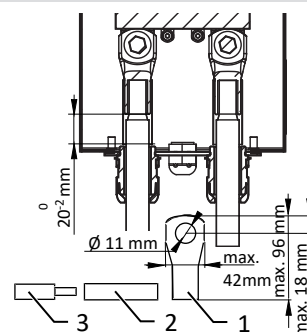

Fig. 28: Configuring the DC cable
Devices with DC switch have a limited connection space ([See section 7.3 ▶ Page 23]) The maximum cable lug length of 96 mm extends into the cable gland to ensure proper function and use [See figure 28 ▶ Page 28].
• **WARNING! Risk of short circuit due to incorrect size of the cable lug! Observe the dimensions for the selection.** [See figure 28 ▶ Page 28]